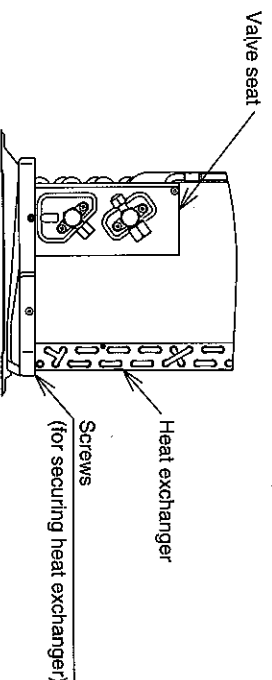

Figure 5
6. Remove the securing screws of the heat exchanger (left and rear) (refer to figure 5).